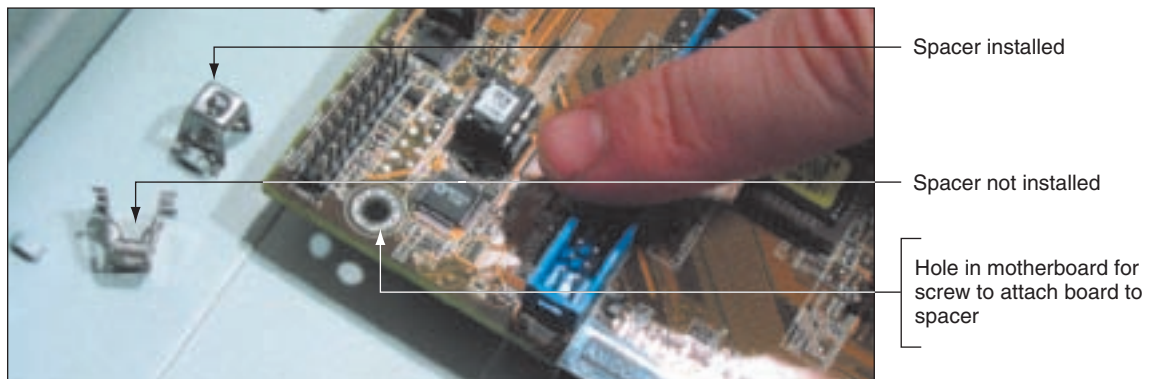

Figure 5-45 The spacers line up with the holes on the motherboard and keep it from touching the case
2. Some cases have **standoffs**, also called **spacers**, which are round plastic or metal pegs that separate the motherboard from the case, so that components on the back of the motherboard do not touch the case. Make sure the locations of the standoffs match the screw holes on the motherboard (see Figure 5-45). If you need to remove a standoff to move it to a new slot, needle-nose pliers work well to unscrew or unplug the standoff. The case will have more holes than you need to support several types of